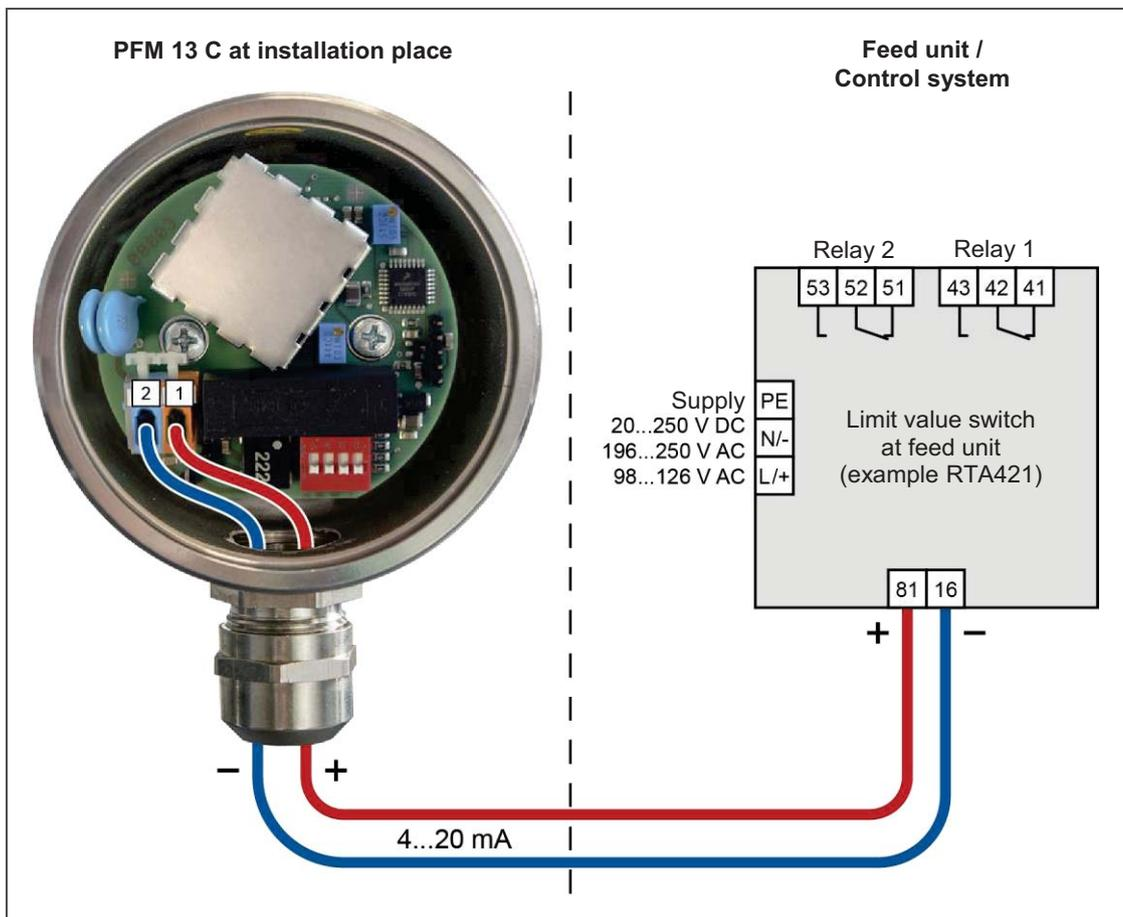

Fig. 10: Electrical connection
2. Lead the cable through the cable gland into the device (see Fig. 10).